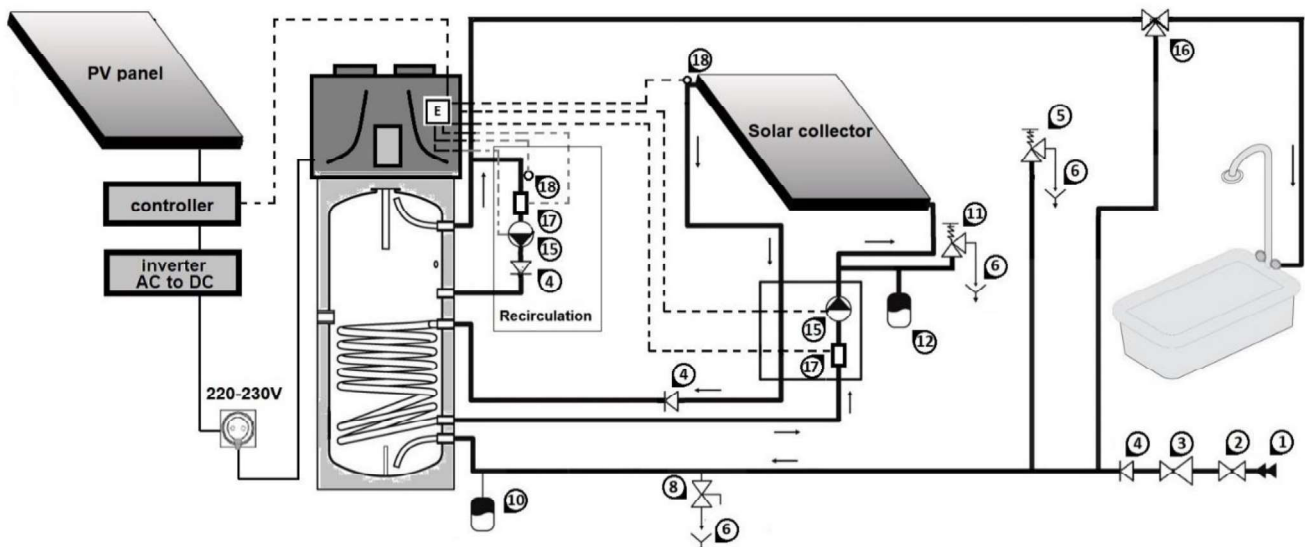
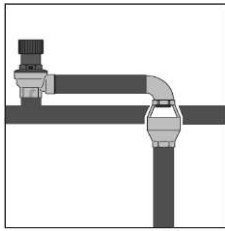

Fig. 8 Connections to the water supply net and solar collector
Fig 8a
The following illustration (Fig. 8) shows an example of a water supply connection.
- **Plastic pipes (PP) are permeable to oxygen. It is forbidden to connect the heat exchanger to system made by PP pipes as well as to open circulation system! Abusing this rule will lead to corrosion inside tube.**
- **It is obligatory for the system installer to fit an 8-bar safety valve No5 on the cold water intake pipe (Fig. 8).**
The safety equipment for protection against over pressure must be operated regularly in order to remove limescale deposits and to check that it is not blocked (Fig. 8)
The drain pipe No6, connected to the safety valve must be installed sloping continuously downwards and, in a place, where it is protected against the formation of ice (Fig. 8). Using a tundish is obligatory (Fig.8a)
An expansion vessel No10 (Fig.8) should be installed in order to absorb water expansion due to temperature variation. Pressure regulator No3 and expansion vessel should be calculated together by qualified person.
WARNING! The heat pump for the production of domestic hot water is capable of heating water up to more than 65°C. For this reason, as a protection against burns, it is necessary to install an automatic thermostat mixing equipment No16 to the hot waterpipe (Fig. 8)
Fill the boiler by opening inlet tap No2 (**Fig. 8**) and the tap hot water of your bathroom. The tank is fully filled with water, when only water without air starts leaking through the tap in the bathroom. Check that there are no leaks from gaskets and connections. Tighten the bolts or connections where necessary;